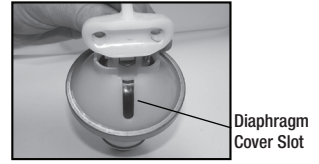

Figure 5
- 7) Attach pivot lever and connection hardware to new diaphragm pump assembly. Make sure orientation is correct with slot in diaphragm cover (Fig. 5).